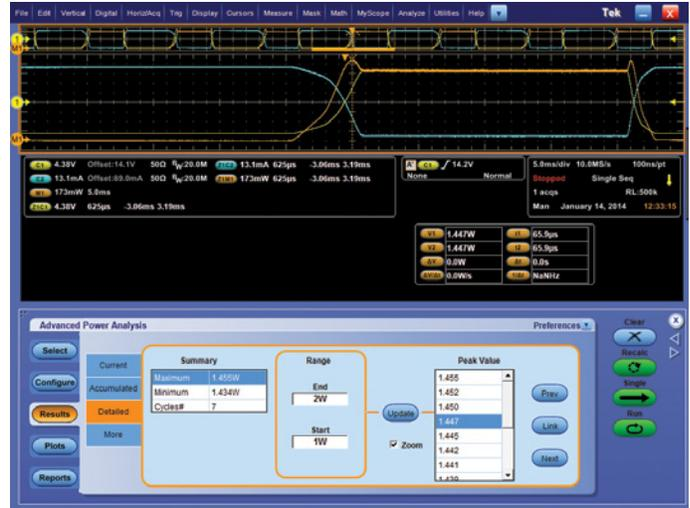

Figure 10. Switch Finder results tab displaying energy loss.
- **Switch Finder Tab:** This tab displays the energy loss at the cursor point as shown in Figure 10